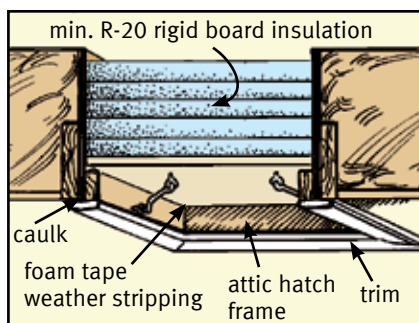

Figure 5 - Attic access panel
- **Attic access panels.** Insulate with a minimum of R-20 rigid board insulation. Add weather stripping and secure panel with latches (see Figure 5).